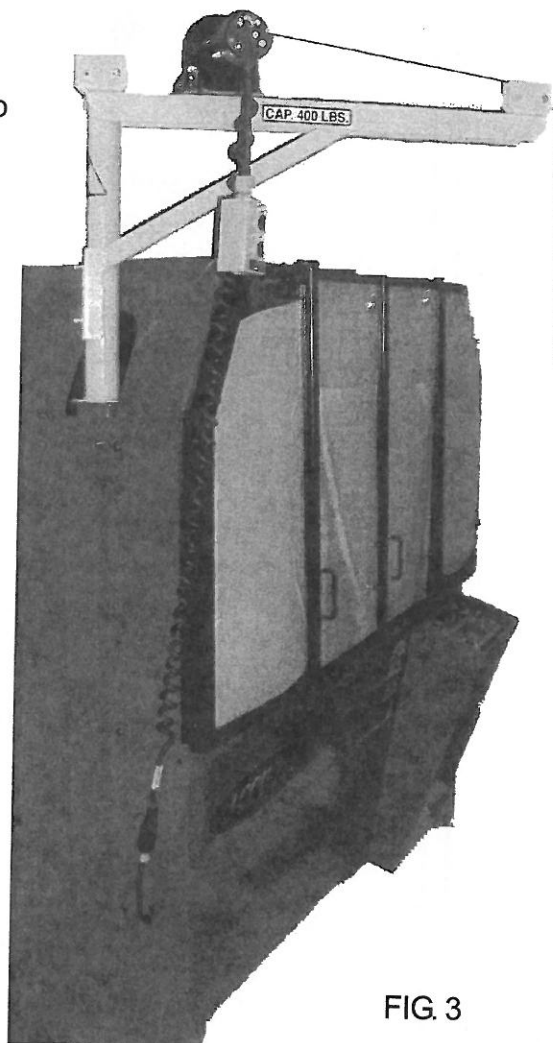

FIG. 3
Install the Electric Winch Assembly onto the Boom with B371211 3/8-16 x 3/4 Socket Head Cap Screw (2) and J377100 3/8-16 Lock Nut. Note the motor position in FIG. 3.